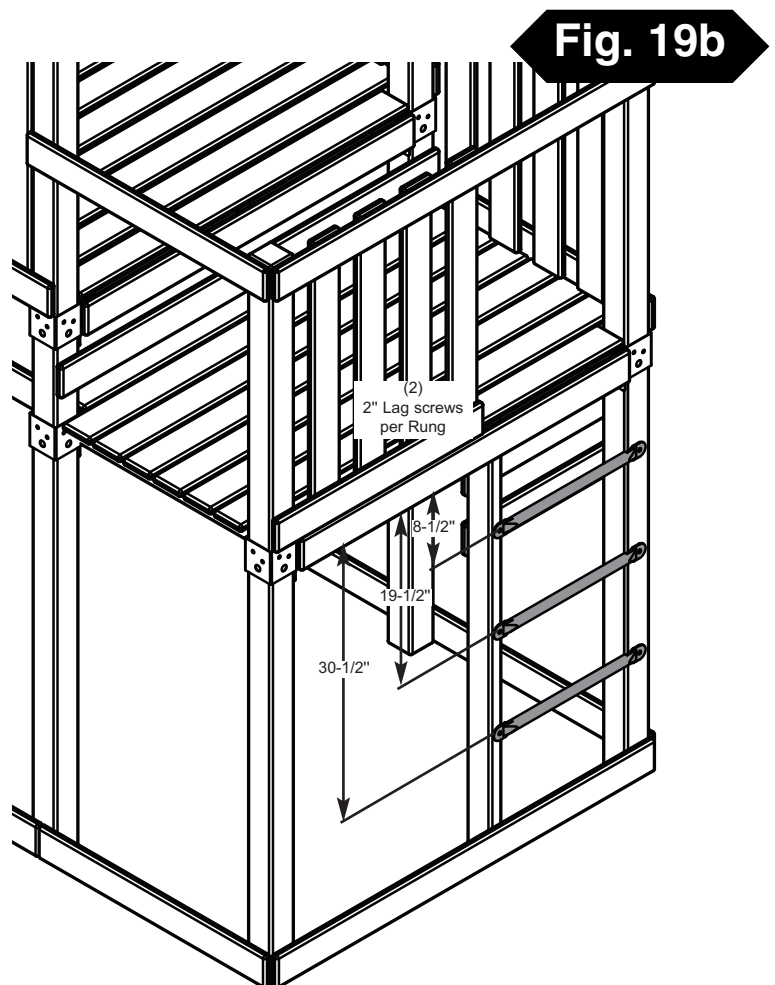

Fig. 21
1. Install Picnic Table Brackets as shown in **(Fig. 21)**.